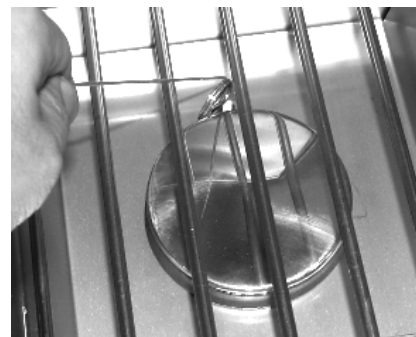

Fig. 33-2 Manual lighting
**CAUTION:** Always wait five (5) minutes for gas to clear after any unsuccessful lighting attempt.
2. Insert either a burning long-barrel butane lighter, a burning long-stem match, or a burning match held by a wire extension holder through the cooking grid opening to the burner (Fig. 33-2). Hold the flame against the edge of the burner.
4. If the burner does not light within five (5) seconds of turning the control knob, **immediately depress the knob and turn the valve to OFF**. **WAIT FIVE (5) MINUTES** before repeating steps 2 through 4 of the **MANUAL LIGHTING** instructions.